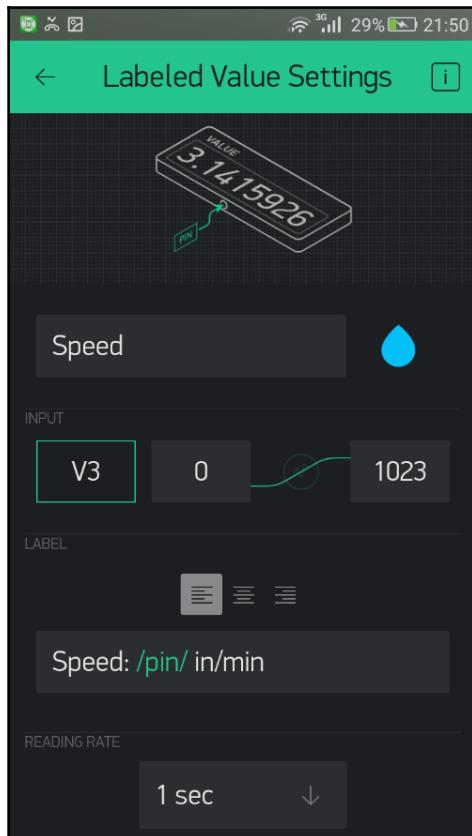

Figure 3.11: Configuring the Labeled Value widget for Speed
8. Repeat the preceding steps to add another **Labeled Value** widget to display **Speed**. Configure it with virtual pin **V3** and change the **LABEL** as Speed: /pin/ in/min (*Figure 3.11*):